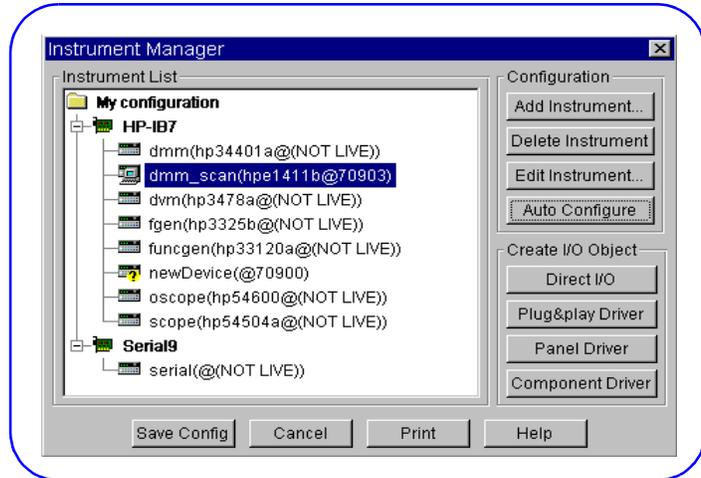

Figure 34. Typical HP VEE Instrument Manager Display
- 5 Click OK to send \*IDN? to the HP E1411B. If the query is successful, instrument communication is verified and the instrument model number (hpe1411b) appears (see Figure 34).